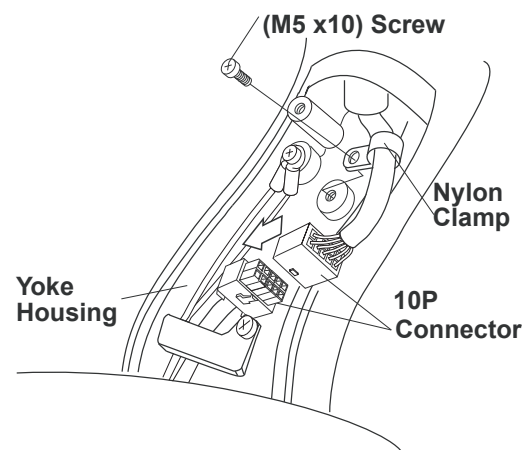

**Fig.3-16** Removing Yoke Inside Cover
2. Open the yoke inside cover of x-ray head by removing (M4 x 15mm) cover screw. (Fig.3-16)
7. Reattach the yoke inside cover with the screw (M4 x 15mm). Before closing the cover, note the CP values on the CP values label inside of the yoke. (**Fig.3-16**)